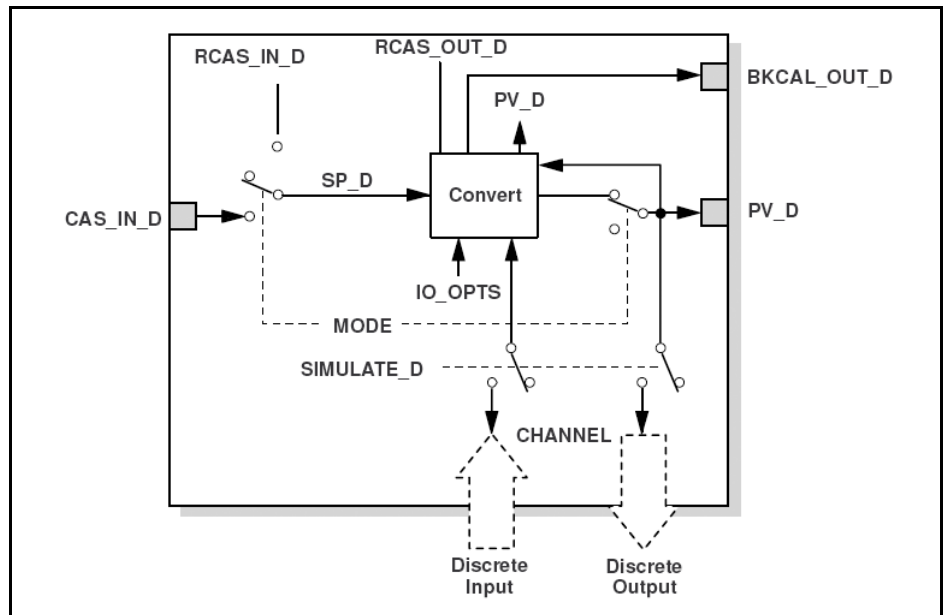

Figure 5-6 Discrete Input Function Block Schematic
The Discrete Output (DO) function block processes a discrete setpoint and saves it to a specified channel to produce an output signal. The block supports mode control, output tracking, and simulation. There is no process alarm detection in the block. In operation, the DO function block determines its setpoint, sets the output, and, as an option, checks a feedback signal from the field device to confirm the physical output operation. Figure 5-6 on page 51 illustrates the internal components of the DO function block, and the following table lists the system parameters.